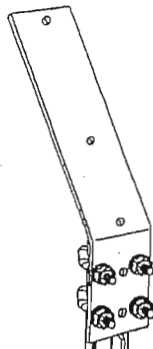
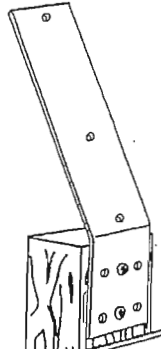

Figure 3
Figure 4
1. Attach the solar panel mounting bracket to the wooden post or steel T-post using the included hardware. Two stainless steel V-bolts, four flat washers and four hex nuts are used to mount the bracket to a T-post. See Figure 3. Two stainless steel wood screws are used to mount the bracket to a wood post. See Figure 4.